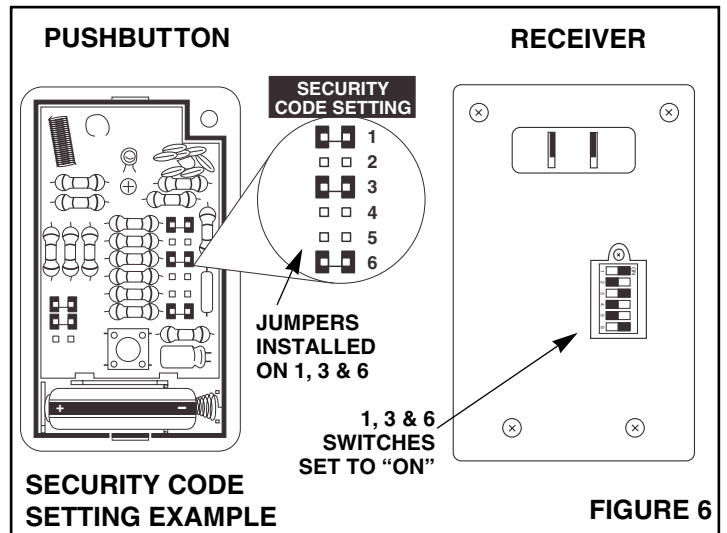

FIGURE 6
2. Refer to Figure 6. Set the switch in the Receiver to match the jumpers in the Pushbutton. The jumpers that are installed in the Pushbutton must correspond to the switches set to the ON position in the Receiver. For example, if jumper #1 is installed, Switch #1 is in the ON position.